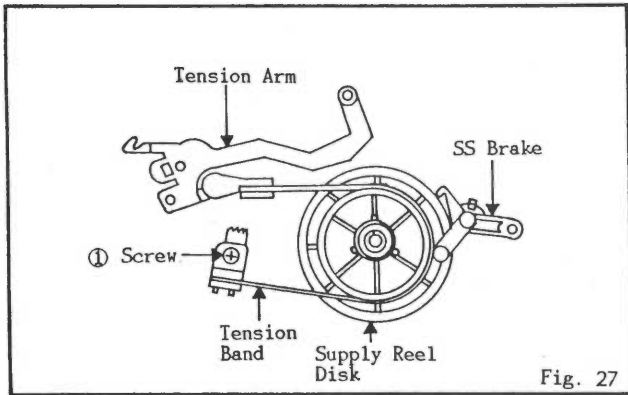

Fig. 27
1. Remove screw ① fixed to the tension band.
2. Release SS brake from the tension band to remove it from the Supply Reel Disk. (Fig. 27)